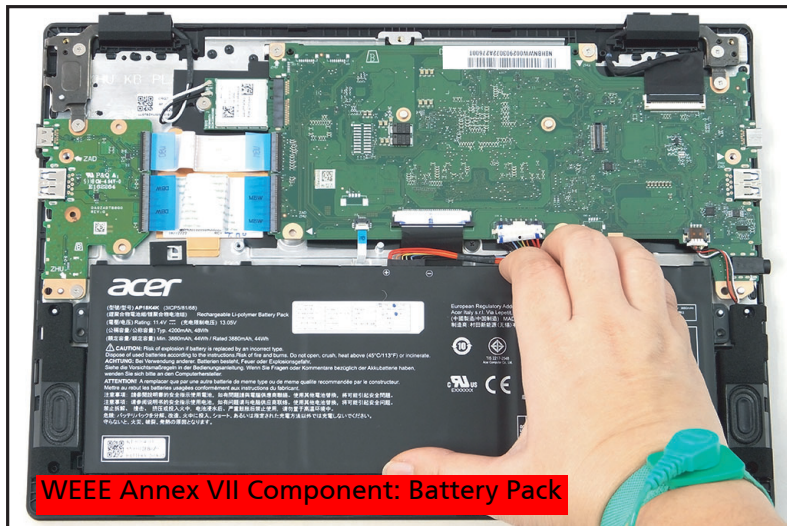

Figure 1-8. Battery Pack Removal
4. Remove the battery pack from the system (Figure 1-8).